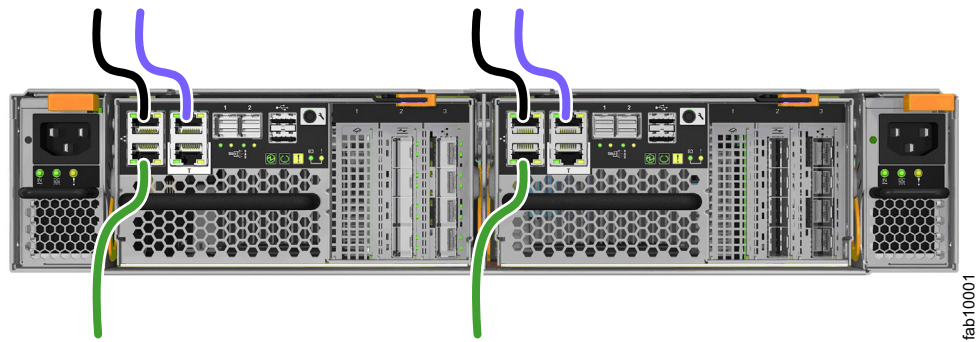

Figure 23. Connecting the Ethernet cables
1. Connect Ethernet port 1 of each node canister in the system to the IP network that will provide connection to the system management interfaces, as shown in Figure 23 on page 25. This port can also be used for iSCSI connectivity to the
2. Optionally, connect Ethernet port 2 of each node canister in the system to a second IP network that will provide redundant connection to the system management interfaces, as shown by the lighter cable connection in Figure 23. This port can also be used for iSCSI connectivity to the system by hosts on the network. Where more than one control enclosure is present in the system, ensure that port 2 of every node canister is connected to the same network to provide access in the event of configuration node fail-over.